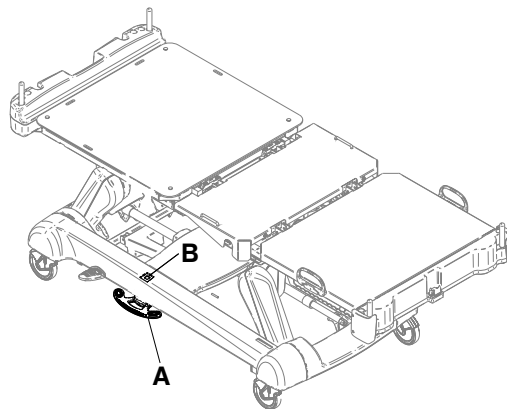

Figure 7 – Brake pedal window
2. Press down the brake pedal (A) until **Brake** appears in the brake pedal window (B) (Figure 7).
To release the manual brakes, press down the pedal until **Neutral** or **Drive** appears in the brake pedal window (B) (Figure 7).